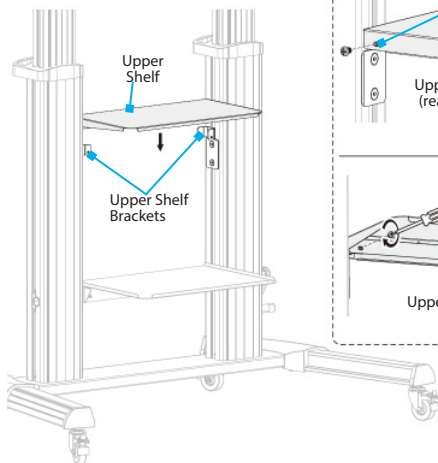

Figure 9a
5. Mount the **Upper Shelf** to the **Upper Shelf Brackets** using four **M6 x 8mm screws (A1)**. Note that there are four total mounting points. Tighten with a **Phillips Head Screwdriver**. (Figure 9a & 9b)